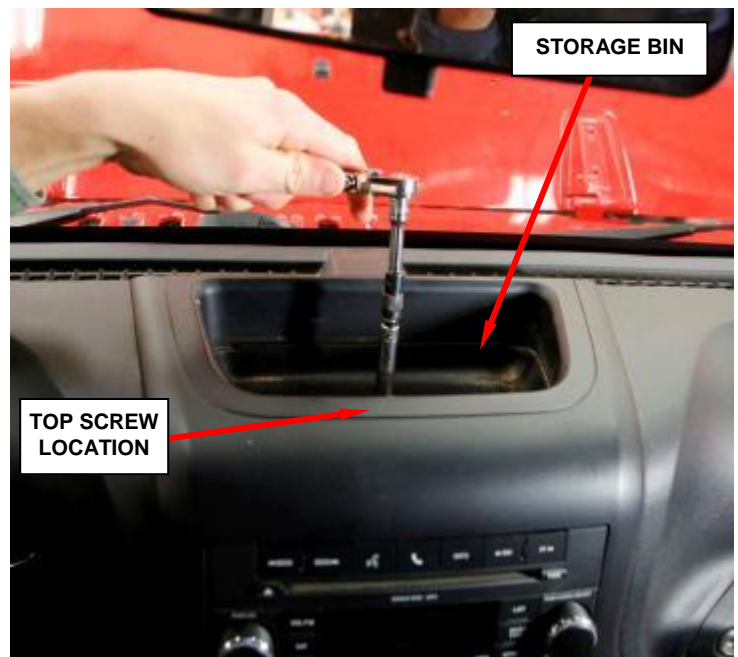

Figure 133 – Center Bezel Screws
18. Remove the storage bin mat and remove the top screw (Figure 133).